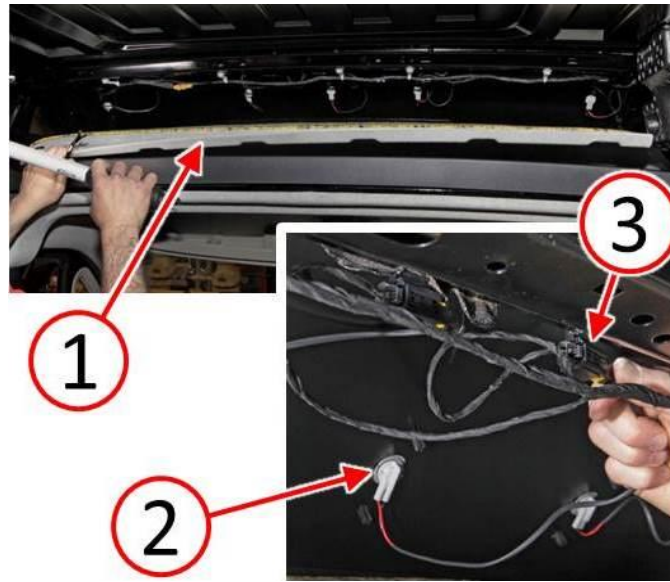

Fig. 16 Roof Clearance Lamp Wire Harness
13. Connect the electrical harness connector (3) to any front roof clearance lamps (2) that were replaced (Fig. 16).
15. Raise the upper compartment roof liner (1) back to normal installed position (Fig. 16).